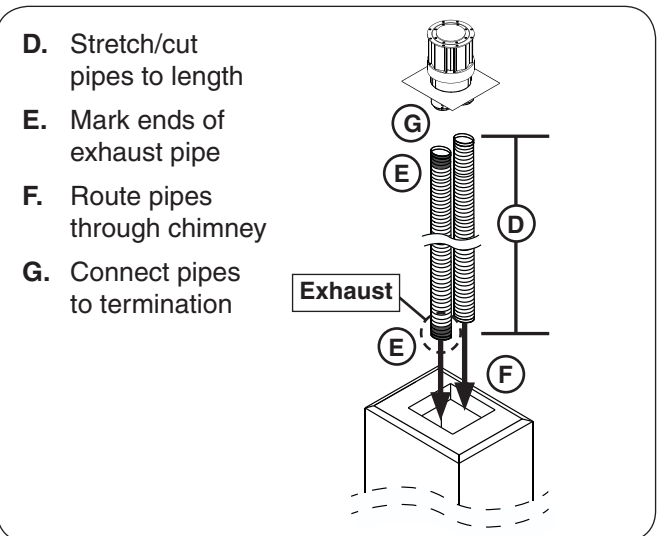
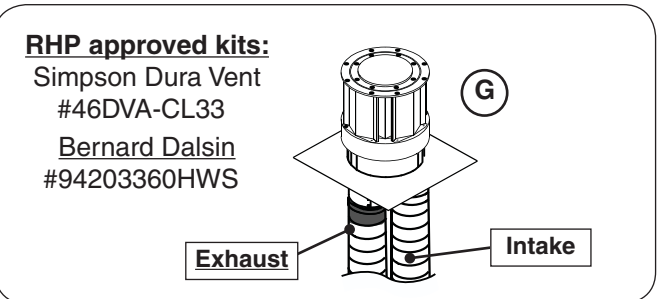

Fig. 21-2 Prepare, route, & connect pipes
Fig. 21-3 Termination cap install detail
4. Stretch the vent pipes to the measured length. Or, if necessary, cut the pipes to the measured length using snips or a hacksaw. See Fig. 21-2, D.
5. Mark each end of one pipe. This is the exhaust. See Fig. 21-2, E.
6. Carefully route the pipes through the chimney (see Fig. 21-2, F).
7. Connect the termination cap to the pipes as instructed in the manufacturer instruction (see Fig. 21-2, G, and Fig. 21-3).